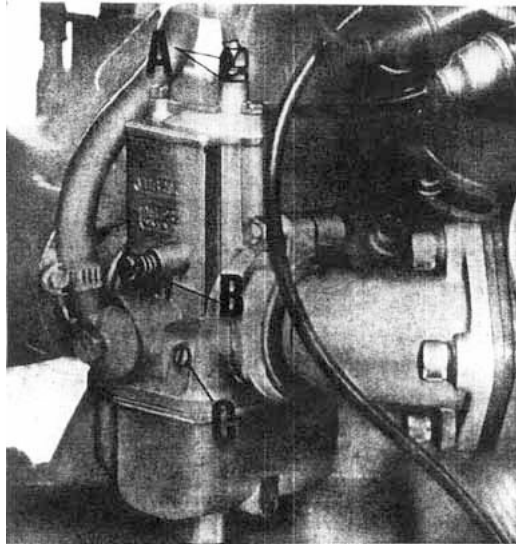

Fig. 17
(See fig. 17) in the position where by turning the throttle both valves open simultaneously .
- 3) Adjust the idling speed by acting on screw C in fig 17. Screwing this in reduces the fuel flow and vice versa increases it. To adjust, tighten the screw and then undo it 1 1/2 - 2 turns for the left cylinder carburetor and 2 - 2 1/2 turns for the right cylinder carburetor. With the engine revolving at about 1000-1200 r.p.m., disconnect the plug lead of any one of the cylinders and lightly turn screw C in fig. 17 of the opposite carburetor on to the position which will give the best idling speed, i.e. until the engine revs increase slightly.
- 4) Disconnect the R/H cylinder plug lead. start the engine, and ensure that it stop after firing 4 or 5 strokes. If it dies out earlier or later, It is necessary to adjust idling screw B in fig. 17 to the point where the engine will stop after firing 4 or 5 times.
If the R/H cylinder is normal, the engine should stop after firing 4 or 5 times. If not, screw 8 in fig. 17 should be similarly adjusted to the position where it does so. The L/H cylinder plug lead is then reconnected.